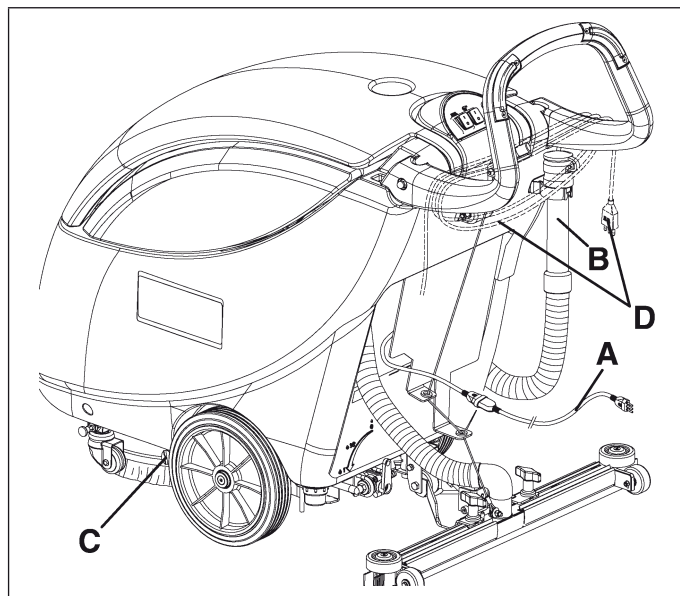

Figure 18
1. Make sure that the power supply cable (A, Fig. 18) is disconnected from the electrical mains. Roll up the power supply cable on the handlebar into position (D).
Drain the water from the tanks by means of the drain hose (B, Fig. 18) and valve (C).